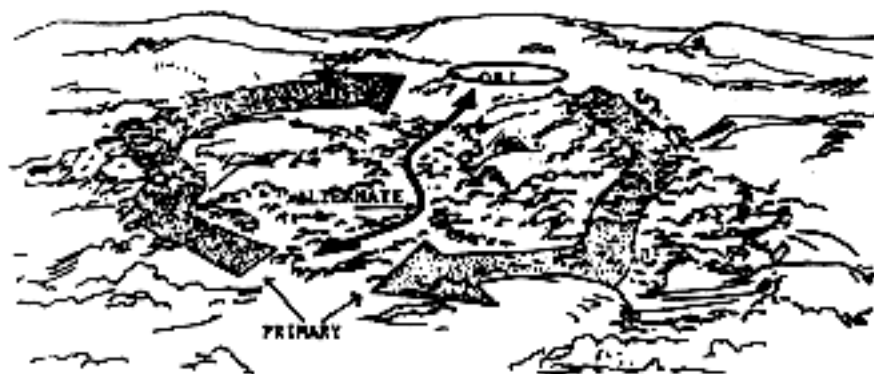

Figure 5-1. Primary and alternate routes.
- (1) Essential and supporting tasks. The leader ensures that he has assigned all essential tasks to be performed on the objective, at rally points, at danger areas, at security or surveillance locations, along the route(s), and at passage lanes to a squad or fire team as appropriate.
- (2) Key travel and execution times. The leader estimates time requirements for movement to the objective, leaders reconnaissance of the objective, establishment of security and surveillance, completion of all assigned tasks on the objective, movement to an objective rally point to debrief the unit, and return to and through friendly lines.
- (3) Primary and alternate routes. The leader selects primary and alternate routes to and from the objective (figure 5-1). The return routes should differ from the routes to the objective.